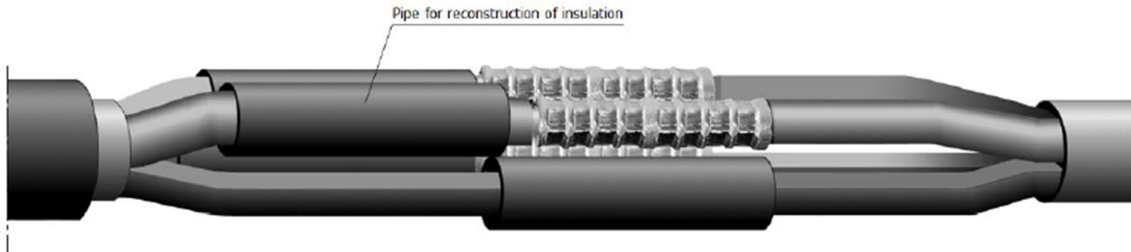
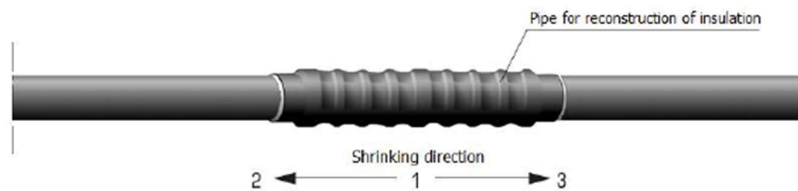

Fig 3
Fig 4
3.4. Symmetrically slide the pipes for restoring insulation over the core connections - Fig. 3. Start shrinking the pipes from their centre and move towards their ends. The shrinking is accompanied by the outflow of glue, which seals the connection - Fig. 4.